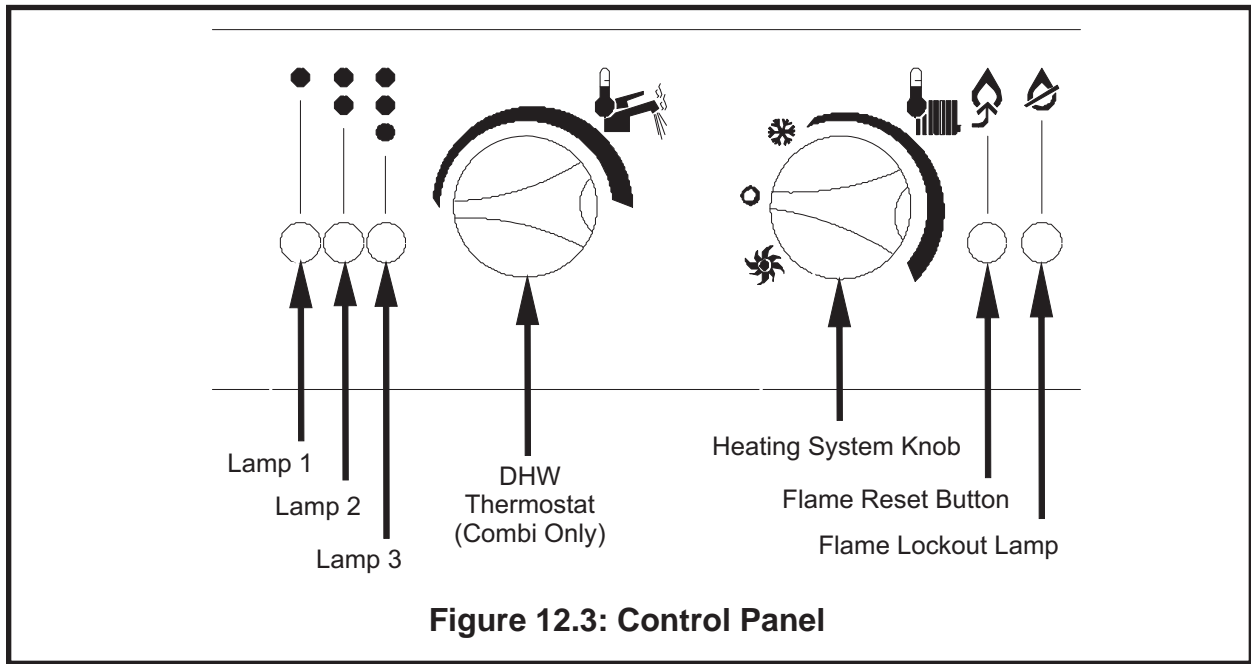

Figure 12.3: Control Panel
- a) Initiate a call for heat from the thermostat. Once this is done, Lamp 1 on the control panel (Figure 12.3) should flash every 4 seconds.
- The burner may not light on the first try. The most likely cause of this problem on a new installation is a gas line that has not been completely purged. Other possibilities include inadequate inlet gas pressure or a boiler that is configured for the wrong fuel. If the boiler does not light on the first try, it will go into a lockout condition. When this happens, the Flame Lockout Lamp (Figure 12.3) will be illuminated. In addition, Lamps 1 and 3 will flash and Lamp 2 will be on continuously. To reset the boiler, push the Flame Reset Button shown in Figure 12.3 AND rotate the Heating System Knob back to “0” for a few seconds.